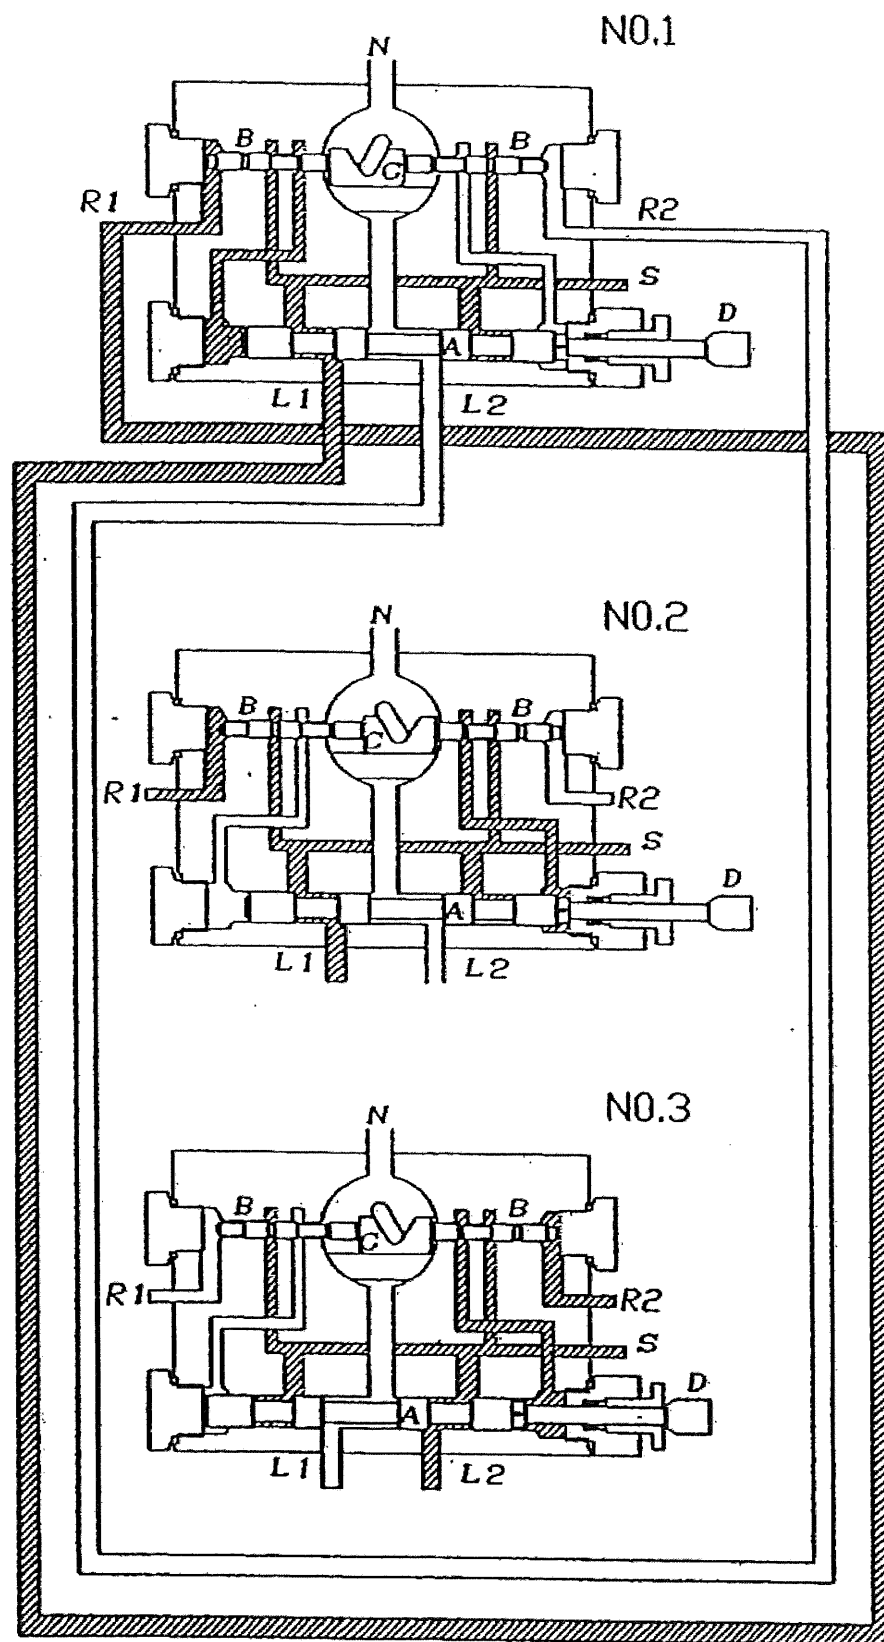

Fig.5
The composition is as shown in Fig.5.
In No.1 of Fig.5, grease pressurized by the pump passes through the inlet S and is forced into the main supply pipe L1 by means of the piston A. At this time, the other main supply pipe L2-R2 is connected to the reservoir through N.
The darkened part of Fig.5 shows the existence of pressurized grease.
- (a) When the pressure in R1 exceeds the set value, the rack piston B is moved to the right as shown in the No.2 of Fig.5. During this movement, grease entering into the cylinder through the inlet S is forced against the right end of piston A by the movement of piston B.
- (b) Grease entering the cylinder through the inlet S and pressurized by the pump moves the piston A to the left, as shown in the No.3 of Fig.5. Upon completion of the above movement, the main supply pipe L1 and its return pipe R1 are connected to the relief line N. During this movement, the grease from the inlet S is fed to the main supply pipe L2. The piston A is provided with a switch lever D, as shown in Fig.5, so that the line reversing operations can be observed from the outside.
When the lubricating pump is started again, grease is admitted into the main supply pipe L2 as shown in No.3 of Fig.5.
After all the measuring valves have been actuated by grease pressurized by the pump, the pressure exceeds the set value, the piston B is moved to the left. With the movement of the piston B, the pressurized grease from the inlet S is forced against the left end of the piston A. This allows the piston A to move to the right as shown in No.1 of Fig.5. At this time, the limit switch is actuated by means of the switch lever D, and the lubricating pump stops.